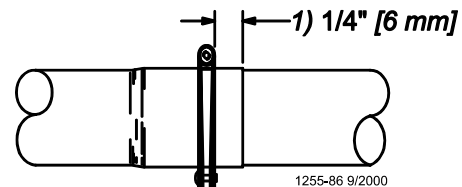

Figure 60. Tube Clamp Location
9. Continue to set each Auger Tube in the feeder line. After each tube is set, tighten the clamp on the bell end toward the hopper. The clamps should be positioned as shown in Figure 60. Do not crush the tubes by overtightening the clamps.
7. Index each of the remaining tubes in the same manner. After each tube has been set, tighten the clamp on the bell end toward the hopper. Position the clamps on the tube joints, as shown in Figure 60.